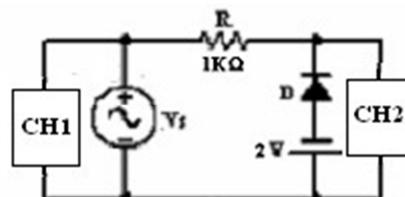

Figure.8
- 5- Switch OFF the Function Generator, and insert 2V DC power supply as shown in Figure 8 (**Negative clipper with bias**), then switch ON the Function Generator and repeat step 3.